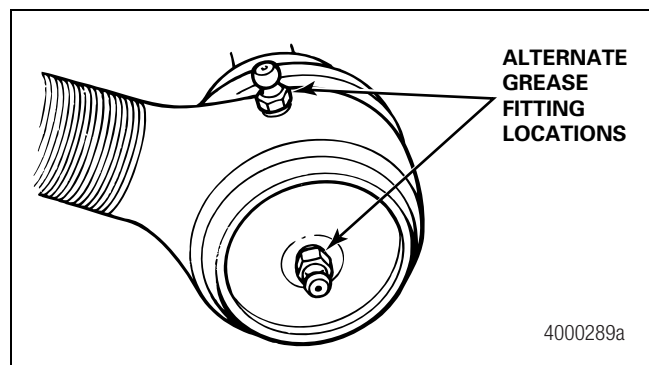

Figure 6.22
- **If the tie rod ends are non-greaseable:** Do not install a grease fitting. Figure 6.22.